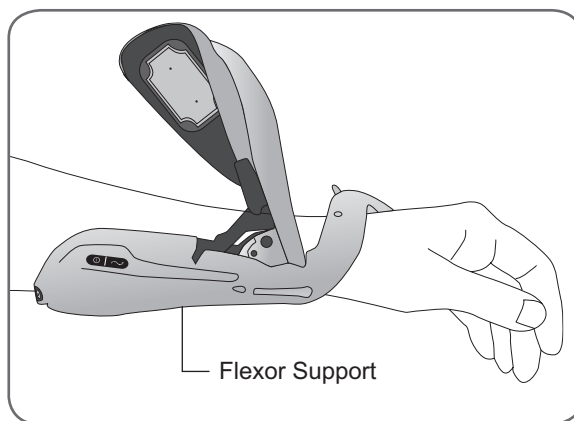

Figure 10-3: Removing the Flexor Support
4. With the Extensor Wing open (See Figure 10-3), remove the Flexor Support from under your forearm.